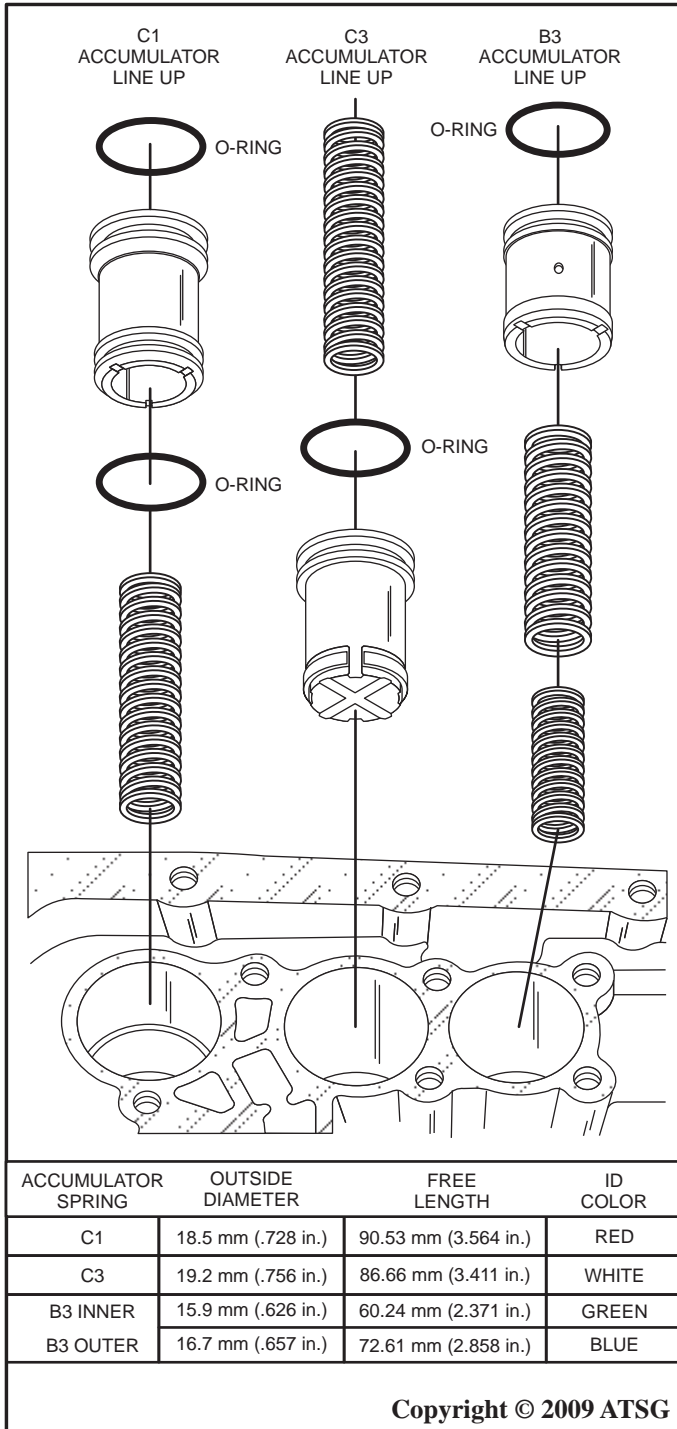

Figure 20
14. Remove the C1, C3 and B3 accumulator pistons and springs as shown in Figure 20.
Note: Spring colors and dimensions have been provided in Figure 20, however, there may be variations from model to model.